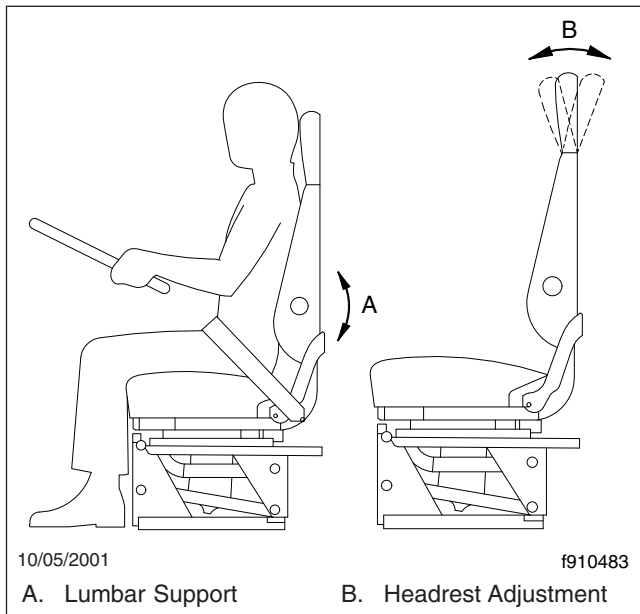

Fig. 5.7, Lumbar Support and Headrest Adjustment
3. **Lumbar Support:** Lumbar support changes the shape of the seat back to give more or less support to the occupant's lumbar (lower back) area. This adjustment is either mechanical or air controlled, depending on make and model of the seat (**Fig. 5.7**).
4. **Headrest:** When this adjustment is made, the upper part of the backrest (back cushion) changes angle to provide head and upper back support (**Fig. 5.7**).